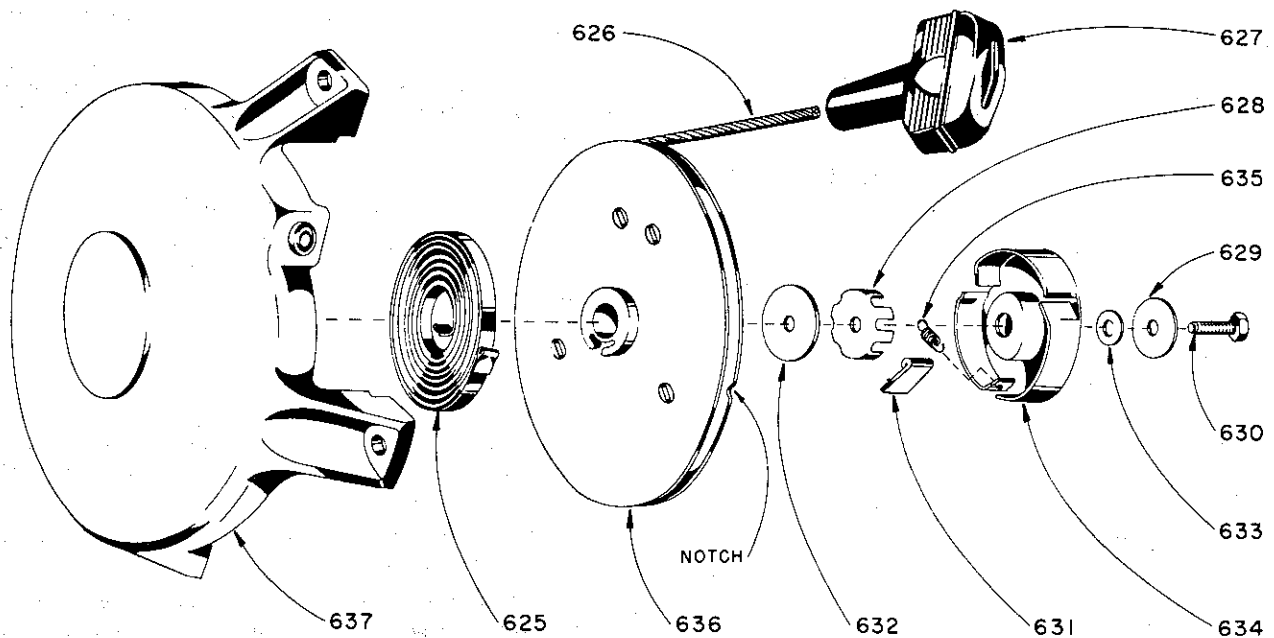

FIG. 6
NOTE: The numbers shown in the disassembly procedure are the reference numbers of the parts in the exploded view of the rewind starter, Fig. 6, Page 3.
With reference to Fig. 6, assemble washers (633) and (629). Mount center screw (630) and tighten 45 to 65 inch pounds torque.